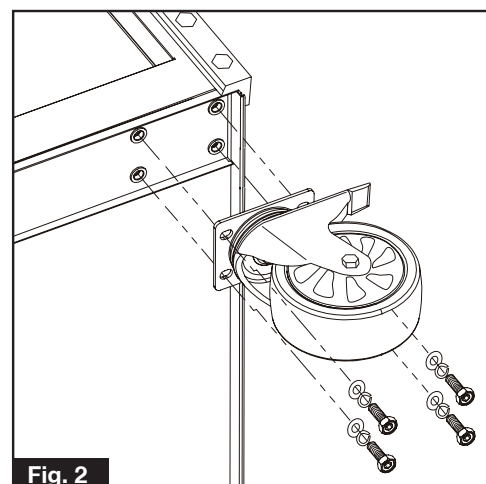

Fig. 2
- Attach the swivel brake wheels to the base of the roller cabinet on the same side as the handle, using M10x20mm bolts, washers and spring washers as shown in Fig. 2. Tighten using a 16mm spanner/socket.